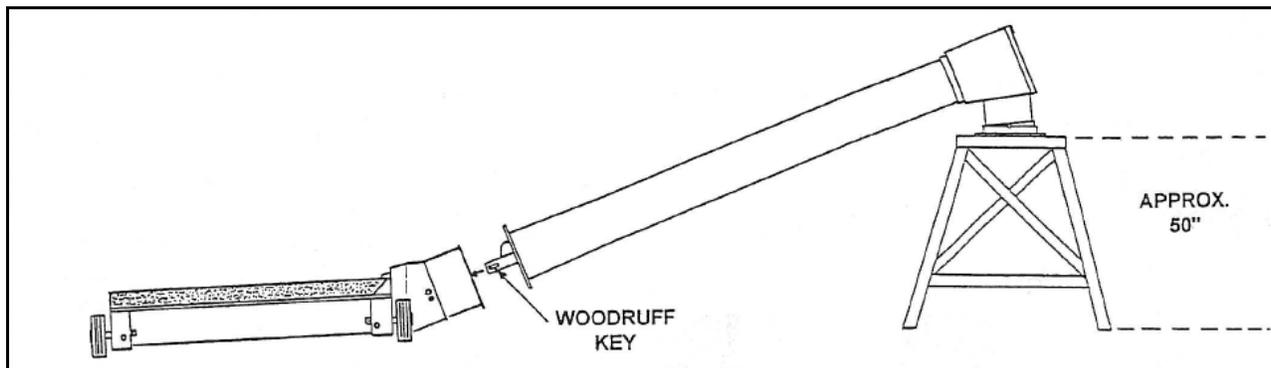

Figure 1
4. Raise and support hopper tube at about 50" under spout. Open service door on hopper, then bring tube and hopper together guiding flight shaft into u-joint (Figure 1).